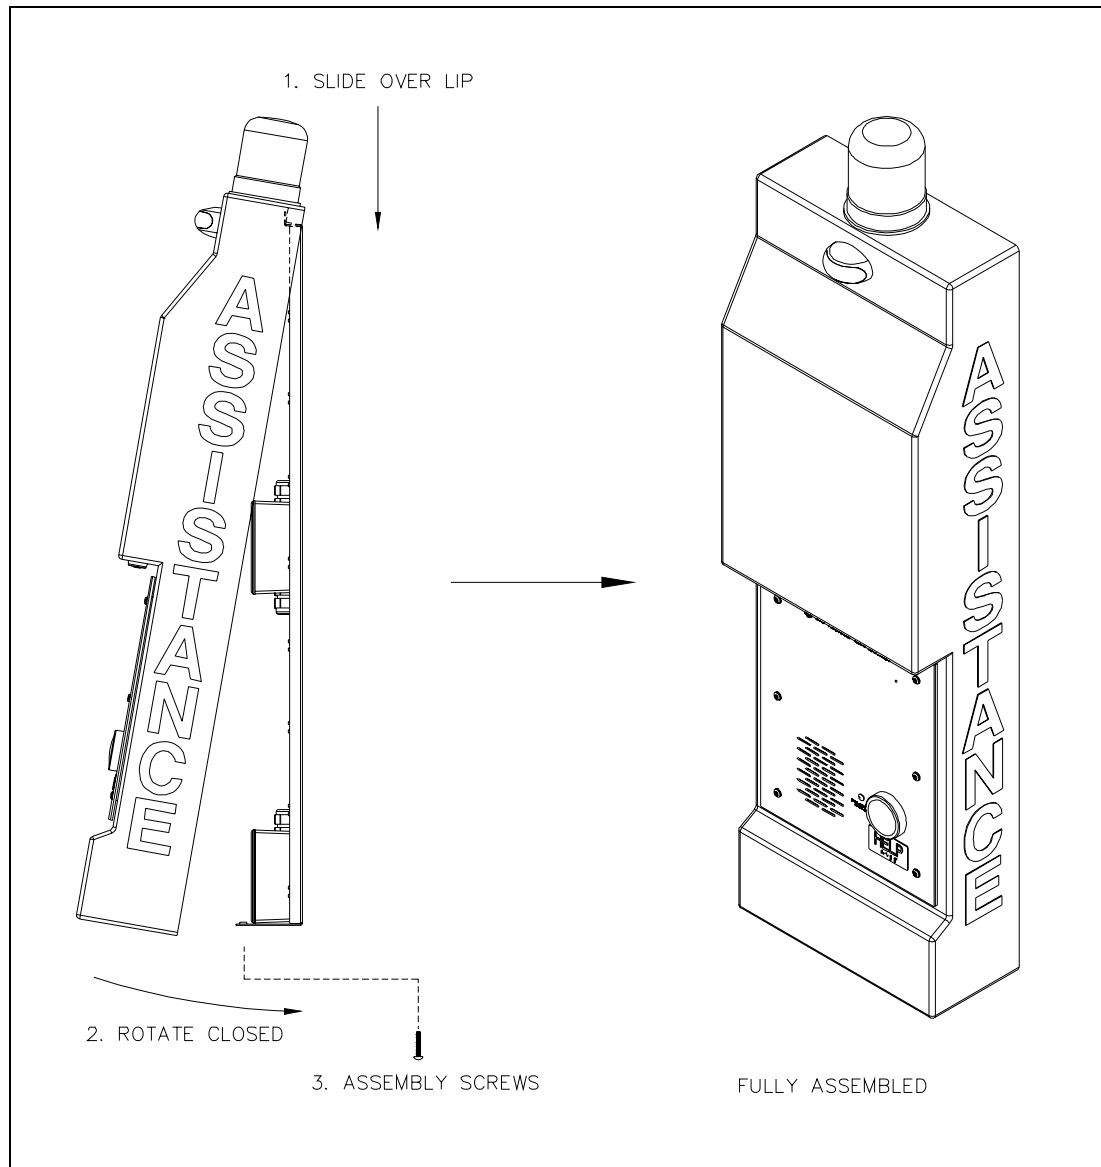

Figure 8. Assemble Stanchion
6. Slide the stanchion body over the upper lip of mounting plate at an angle that allows the support bar of the main body to slide into the top lip of the mounting plate. Rotate the main body parallel to the support surface, allowing the bottom lip of the mounting plate to insert into the stanchion body. Refer to Figure 8. Do not attach the bottom attachment screws until after telephone installation and final test.